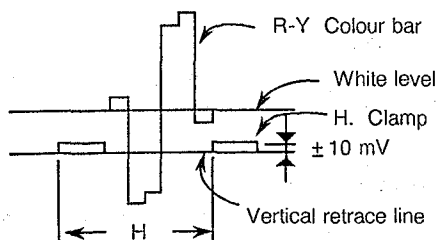

Figure 3.
6. Adjust LM03 so that the white level in picture part reaches to the vertical retrace line. (See figure 3.)
DVM..... Connect to the resistor R171 (Ⓢ in figure 3) and ground.